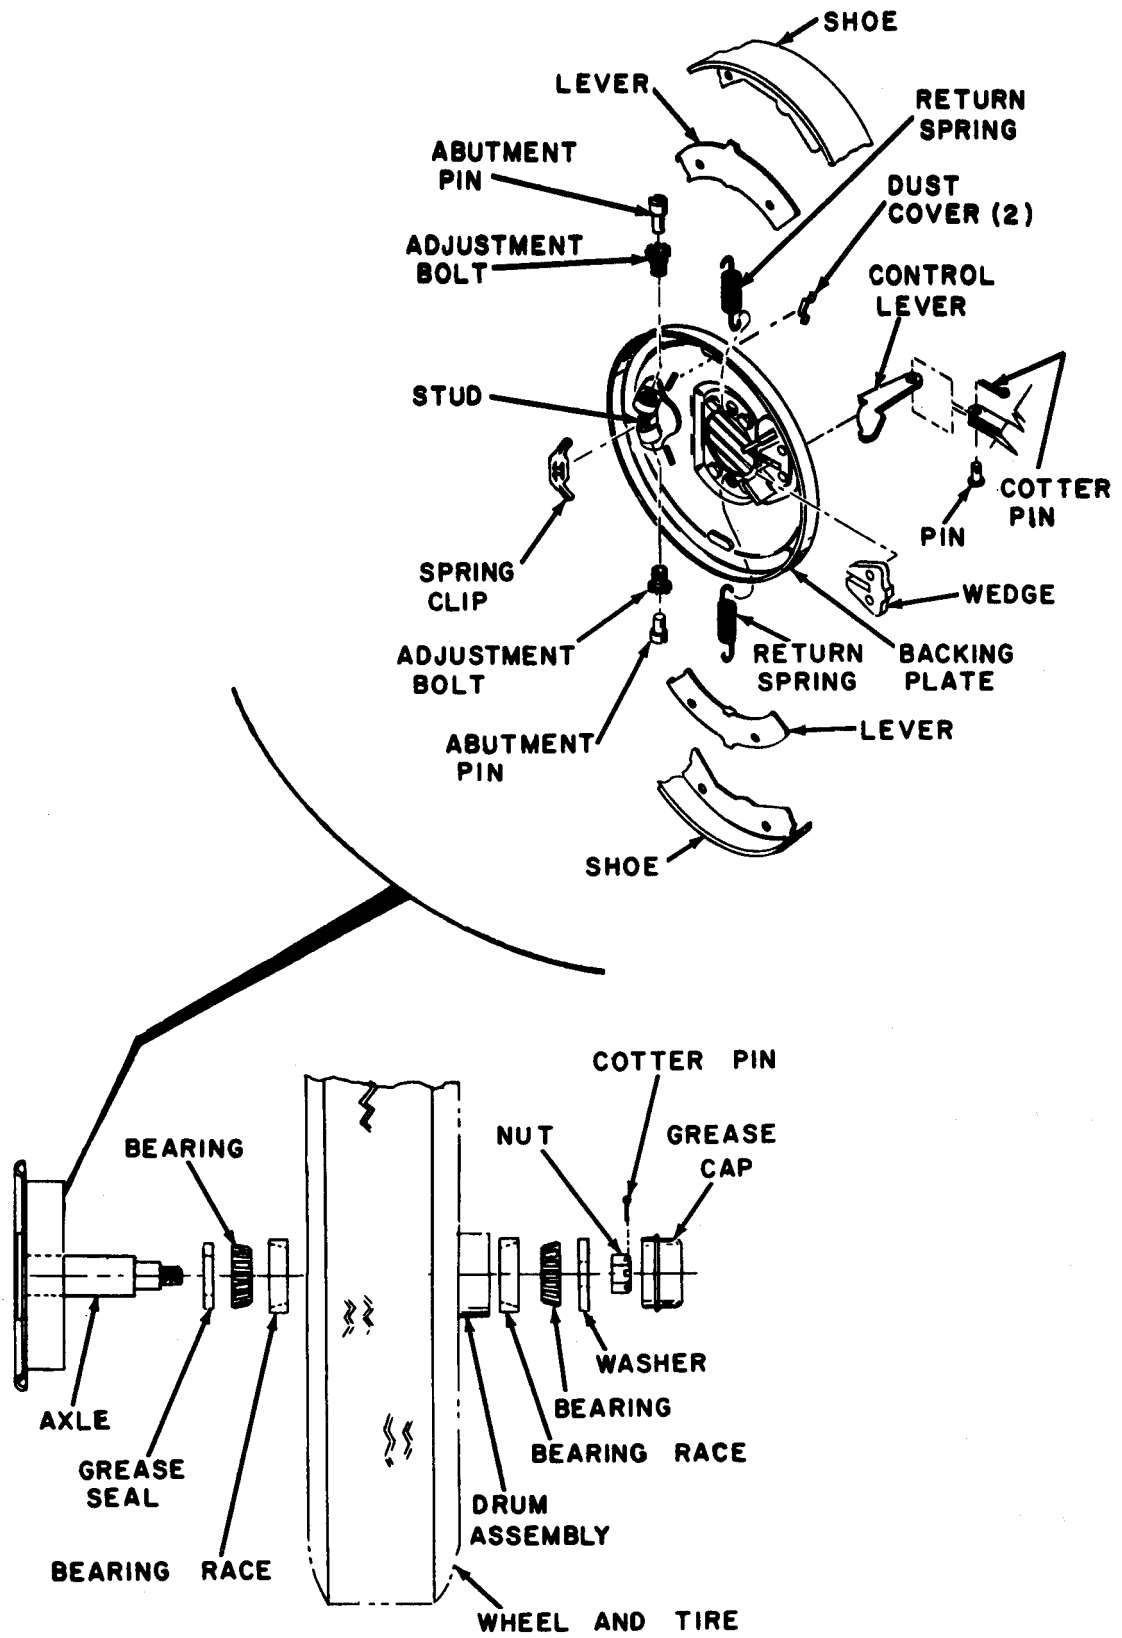

Figure 4-10. Wheel bearings and brakes, exploded view
a. REMOVAL. Remove wheel bearings as illustrated in figure 4-10, observing the following:
d. **INSTALLATION.** Install wheel bearings as illustrated in figure 4-10, observing the following:
e. **ADJUSTMENT.** Refer to figure 4-10 and adjust wheel bearings as follows:
a. **REMOVAL.** Remove components of wheel brakes as illustrated in figure 4-10, observing the following:
d. INSTALLATION. Install components of wheel brakes as illustrated in figure 4-10, observing the following:
3. Install assembled wheel and drum assembly as illustrated in figure 4-10.
2. Remove dust covers from backing plate, refer to figure 4-10. Adjust each wheel brake using a suitable brake adjusting tool.